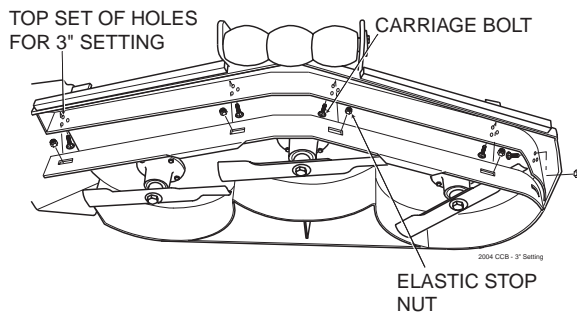

Figure 6. 3" Custom-Cut Baffle Position
- A. 3" Position - baffle is installed using the top set of holes on the front baffle welded inside the cutter deck. (See Figure 6, Page 12). The Advantage cutter deck will deliver the best quality-of-cut in very tall, wiry, tough to cut grass.
2. Move the Custom-Cut Baffle to desired position. (See Figures 6 through 8 for position)
3. Reinstall the mounting hardware as shown. (See Figures 6 through 8). Torque hardware to 39ft.lbs.